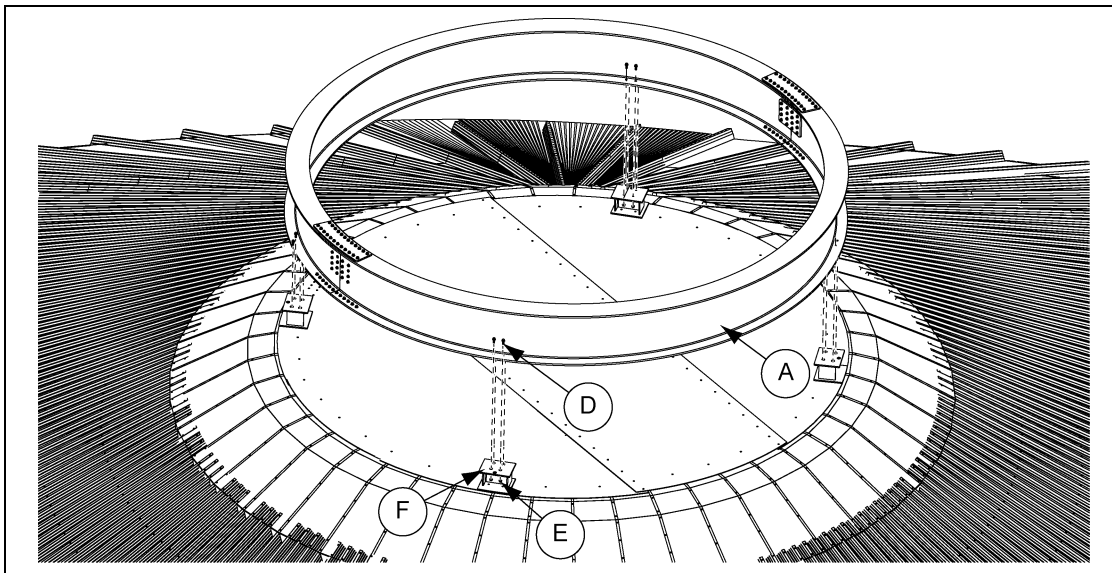

Figure 2
2. Install the rolled I-beam assembly (A) on the stand-off weldments (F) with the flange bolts (D) and flange nuts (E). (See Figure 2.)